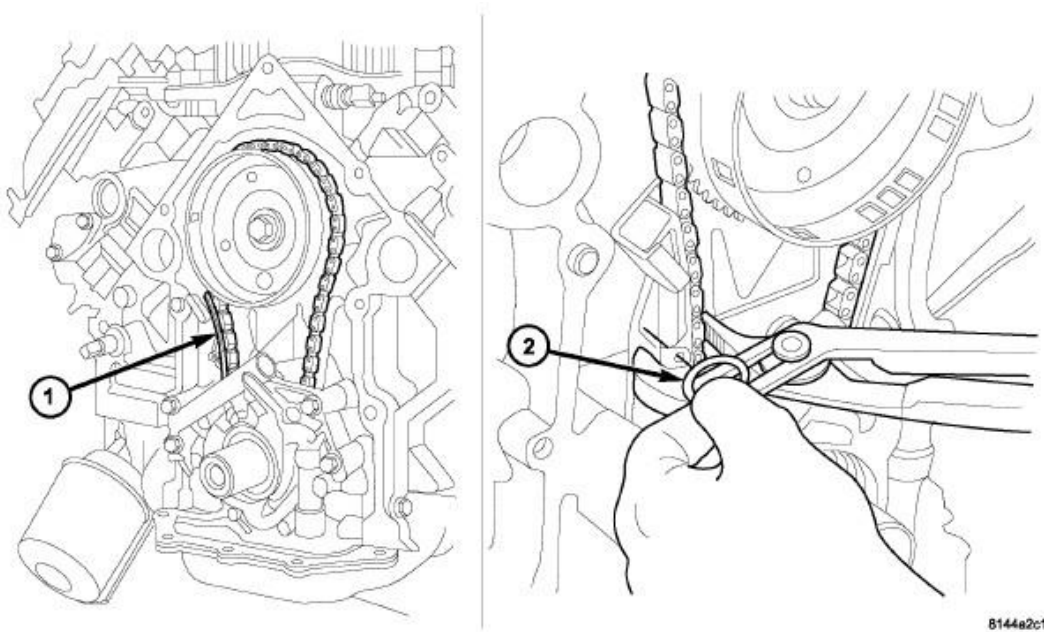

Fig. 258: RETRACTING TENSIONER
6. Lift the sprockets and chain keeping sprockets tight against the chain in the position as shown in **Fig. 258**.